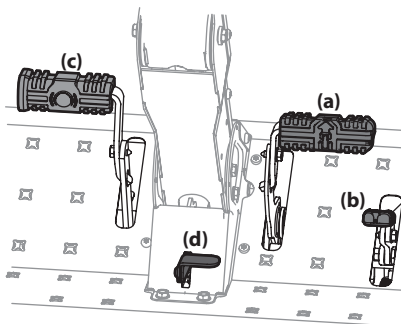

Figure 3-1
2. To travel FORWARD, slowly press the forward drive pedal (a) forward until the desired speed is achieved. See Figure 3-1.
8. To travel in reverse, check that the area behind is clear then slowly push down on the reverse drive pedal (b) with the ball of your foot (NOT your heel) until the desired speed is achieved. See Figure 3-1.